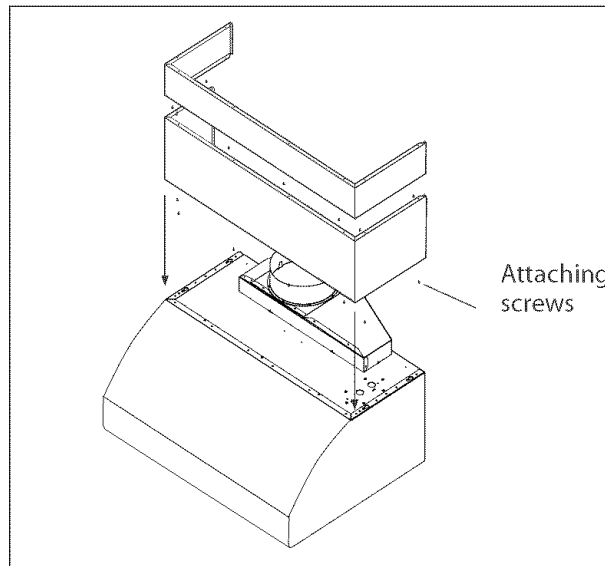

FIG. 7
Optional duct covers shown in Figure 7 may be used to fill the space between the hood and ceiling in wall mount installations. 6" and 12" high duct covers are available and may be ordered separately.
2. Attach the duct cover(s) to the hood using sheet metal screws as shown in Figure 7.